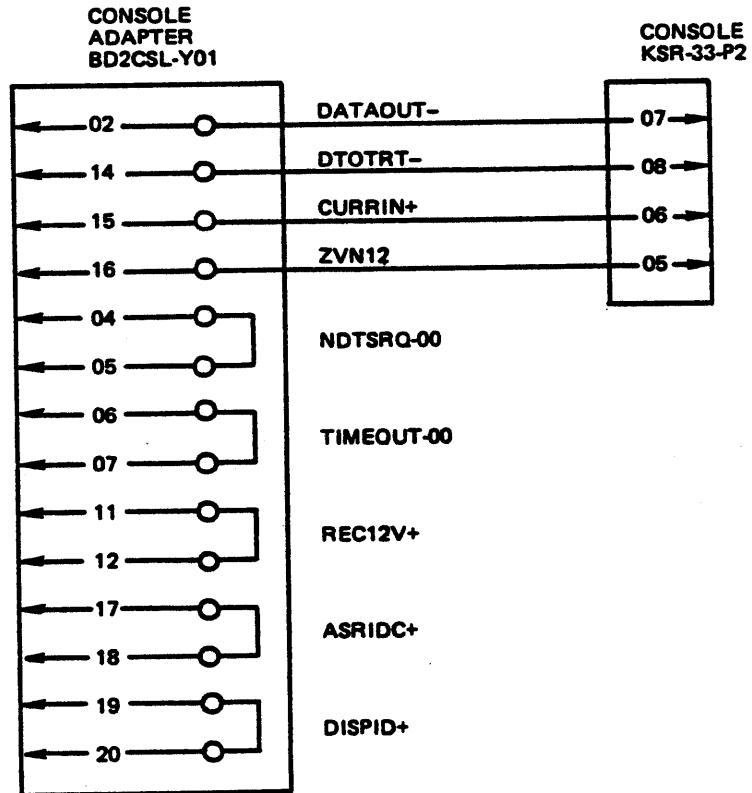

Figure 3-44 DCF6606 Console Cable (60128478-014)
4. Connect one branch of the signal cable from the auto-shutdown box into the P2 receptacle of the KSR-33. Plug the other branch of this cable into the adapter cable (60128478-014). (See Figure 3-44 for the cable signal and wiring diagram.)